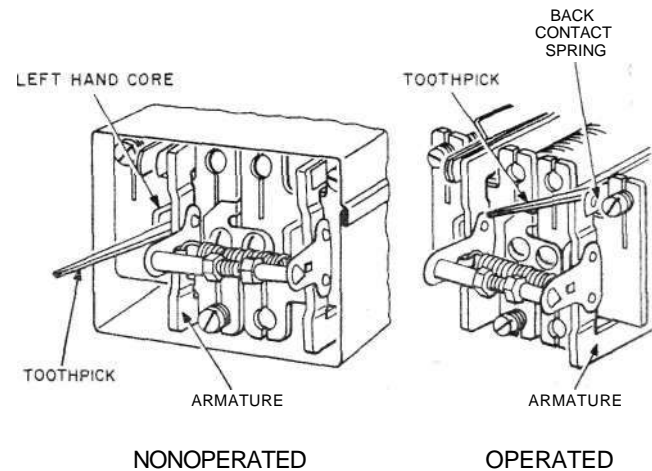

Fig. 5—Blocking C-Type Relays
3.03 C-Type Relays: Fig. 5—Block relays nonoperated by inserting a toothpick between the left-hand core and the armature. Block relays operated by inserting a toothpick between the back contact spring and the upper part of the right-hand armature. Take care not to insert the toothpick between the contacts.